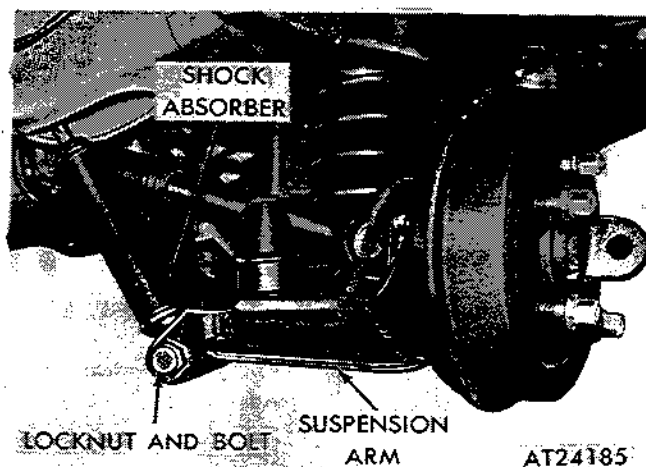
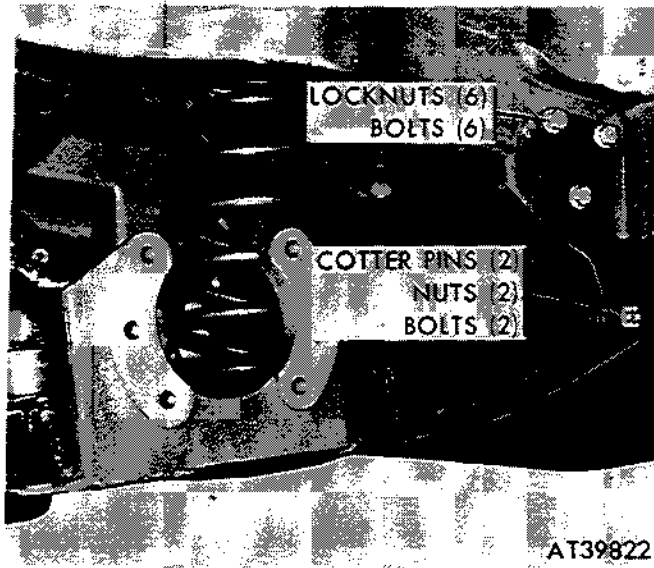

Figure 2-343. Removing or installing shock absorber to suspension arm.
Figure 2-348. Removing or installing rear suspension arm assembly.
absorber to suspension arm and body (M151A2, M825, and M718A1) (fig. 2-343).
(4) Remove bolt and locknut securing shock absorber to suspension arm (fig. 2-343).
- (9) Move wheel drive shaft with universal joint and wheel drive flange to one side.
- (10) Remove locknut and bolt securing shock absorber to suspension arm (fig. 2-343).
- (11) Lower suspension arm until spring can be removed.
- (12) Loosen suspension arm bracket to body bolts (fig. 2-348).
- (13) Remove two cotter pins, slotted nuts and pivot bolts securing suspension arm to brackets and remove suspension arm assembly (fig. 2-348).